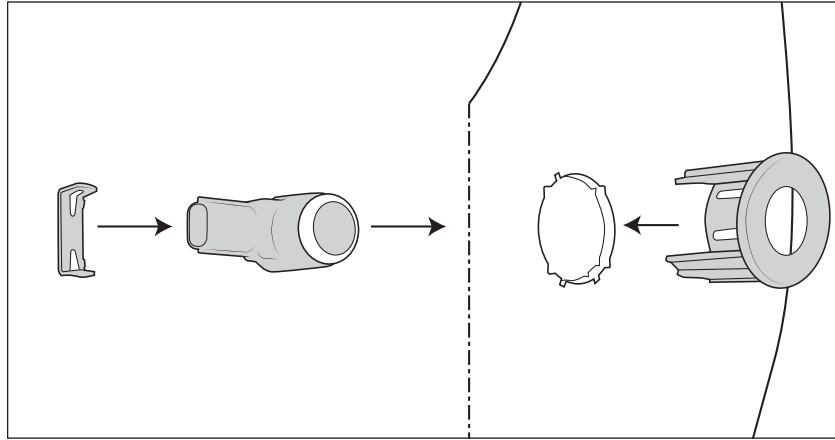

Figure 30
1. Clean bezel with alcohol then install appropriate bezel (IB to center section, OB to corners) into each bumper hole using black RTV between bezel and bumper (fig 30).